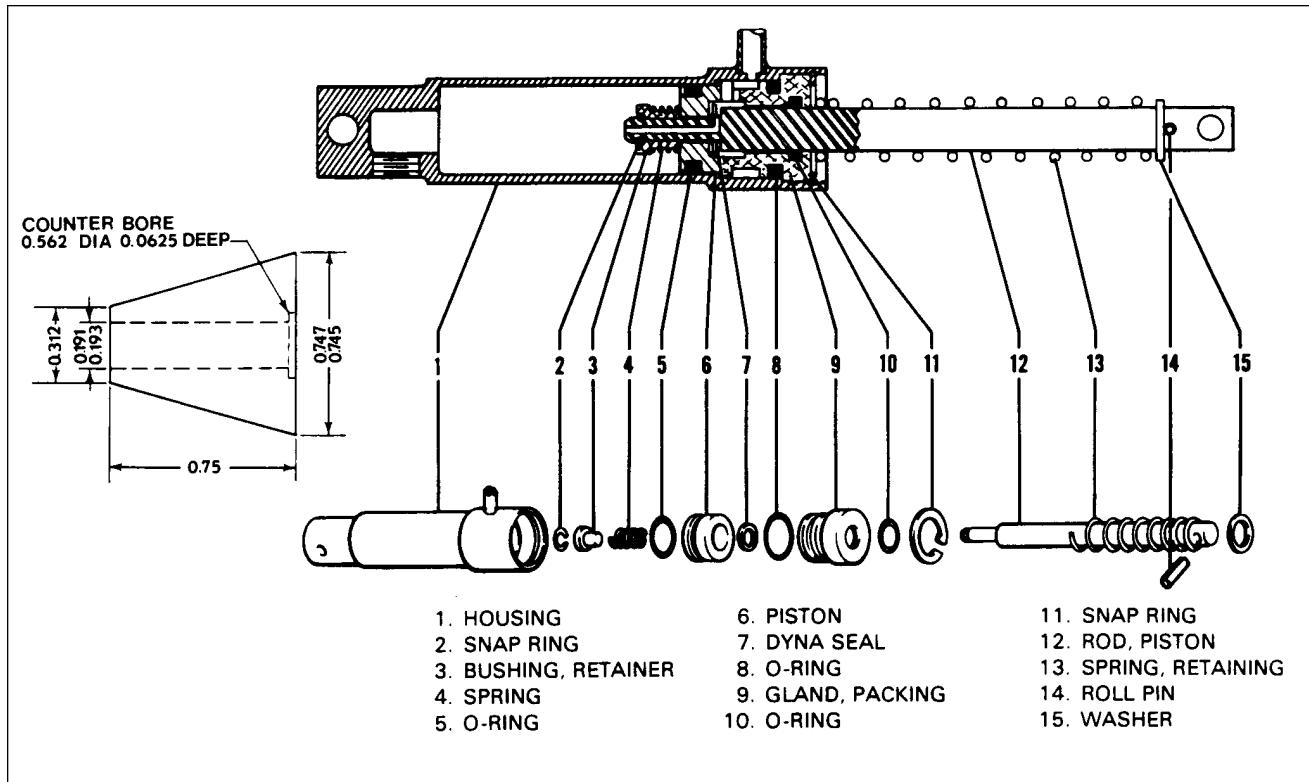

Figure 32-15. Brake Master Cylinder (Hand/Parking Brake)
1. Install new O-ring on inside and outside of packing gland and on outside of piston.(Use a cone placed against the piston when installing Teflon O-ring on piston. The cone may be plastic or metal with dimensions per figure 32-15.)